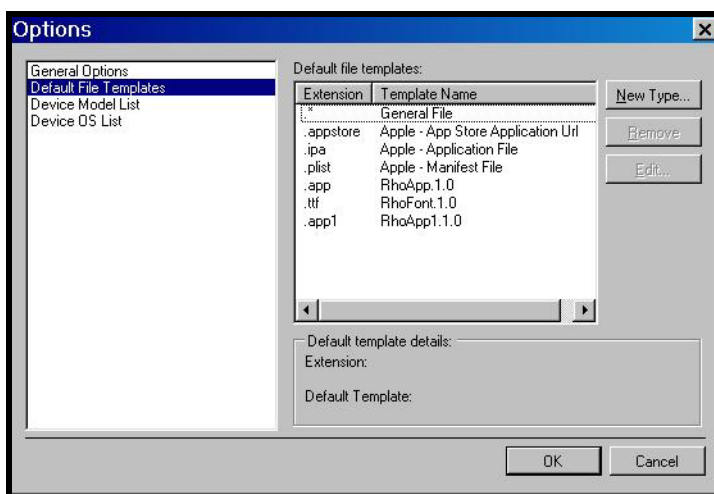

Figure 4-14 Options Window with Extensions
- Repeat for RhoFont (.ttf) and Rho App1 (.app1). Once you are done, the **Default Template** list should look as shown in Figure 4-14.